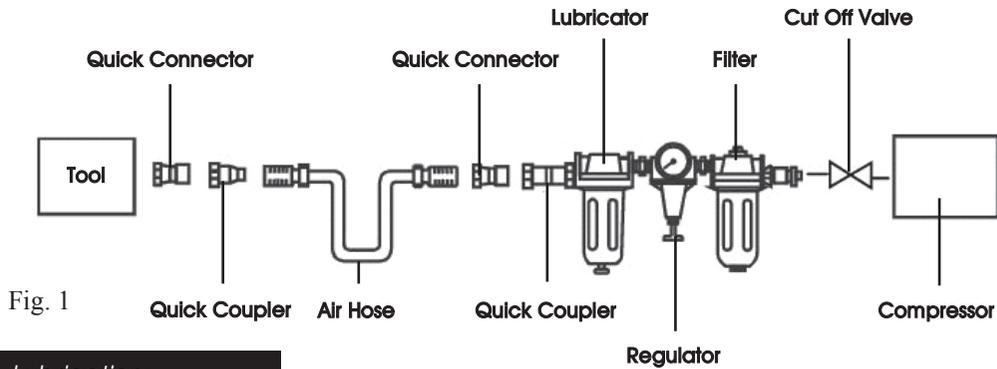

Fig. 1
- Recommended hook-up procedure is shown in fig 1 (on page 6).
- An automatic in-line filter-regulator-lubricator is recommended (as shown in Fig1) as this increases tool life and keeps the tool in sustained operation.
**Caution:** If a filter/regulator/lubricator is not installed on the air system, air operated tools should be lubricated at least once a day or after 2 hours work with 2 to 6 drops of oil, depending on the work environment, directly through the male air inlet fitting (3) in the tool housing.